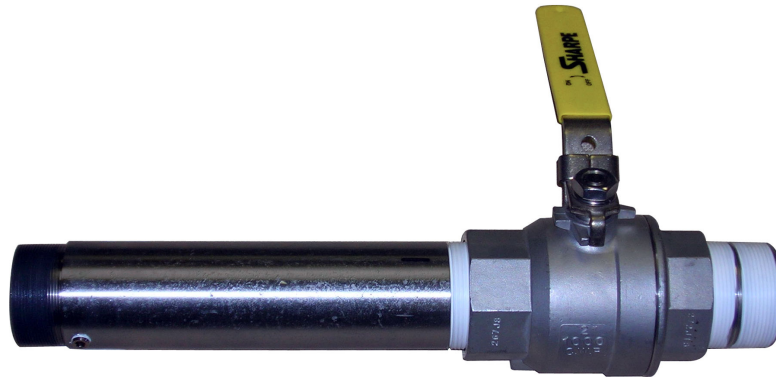

Figure 1a; S.S. Ball Valve Assembly in closed position. (The CPVC sensor uses a customer supplied ball valve.)
- 1.4. Install the customer supplied ball valve and the InsiteIG Main Shaft, Figure 1a., onto pipe using PTFE Thread Compound or Teflon tape. Do not completely tighten. Final alignment will be made when sensor is in place. The back edge of ball valve should be no more than 10 inches from inside wall of pipe.